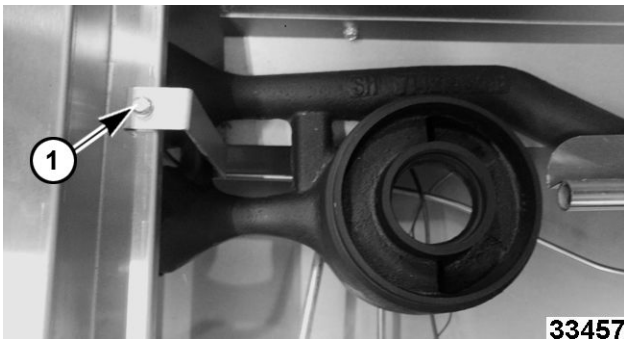

Fig. 27
- Remove burner retainer bracket (1, Fig. 27).